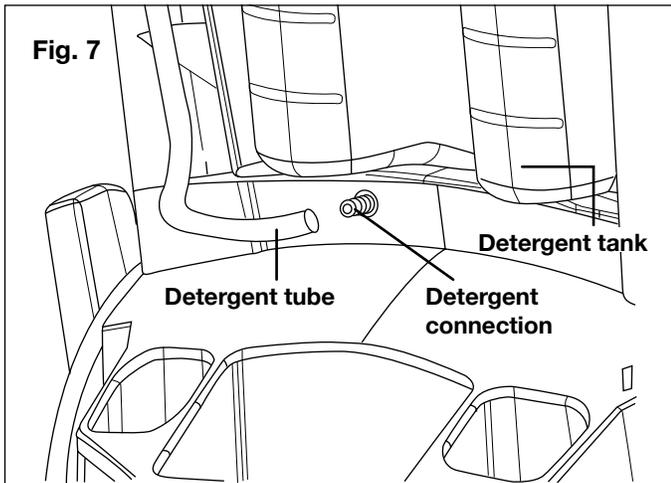

Fig. 7
6. Connect the PVC detergent tube to the detergent connection (Fig. 7).